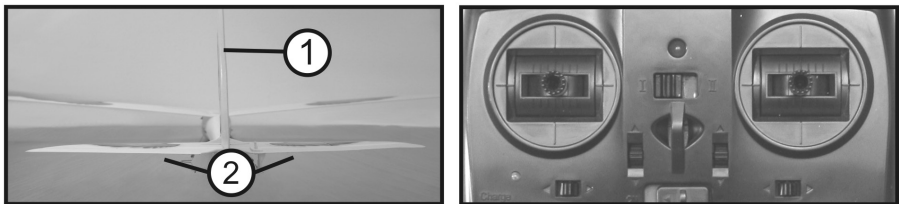

Figure 10
When the control lever for the rudder and elevator function and the digital trimming of the control functions is precisely in the centre position, the rudder (figure 10, item 1) and elevator (2) should be precisely at the centre as well. Viewed from the rear, the rudders and elevators must form a level with the rudder and must not be deflected to the top or bottom, left or right.